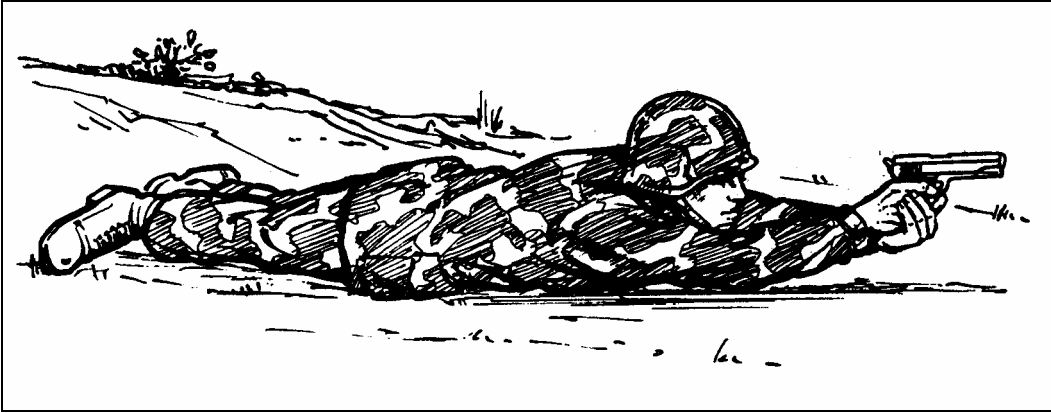

Figure 2-12. Prone position.
e. **Prone Position.** Lie flat on the ground, facing the target (Figure 2-12). Extend your arms in front with the firing arm locked. (Your arms may have to be slightly unlocked for firing at high targets.) Rest the butt of the weapon on the ground for single, well-aimed shots. Wrap the fingers of the nonfiring hand around the fingers of the firing hand. Face forward. Keep your head down between your arms and behind the weapon as much as possible.